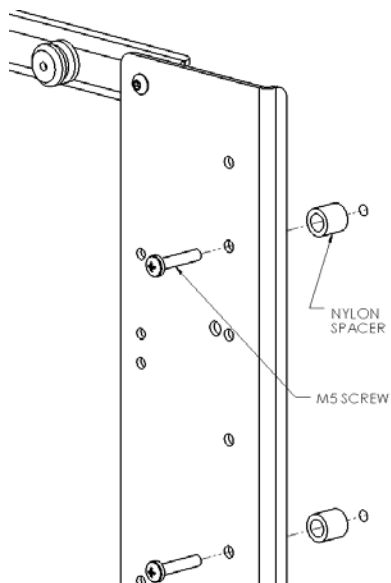
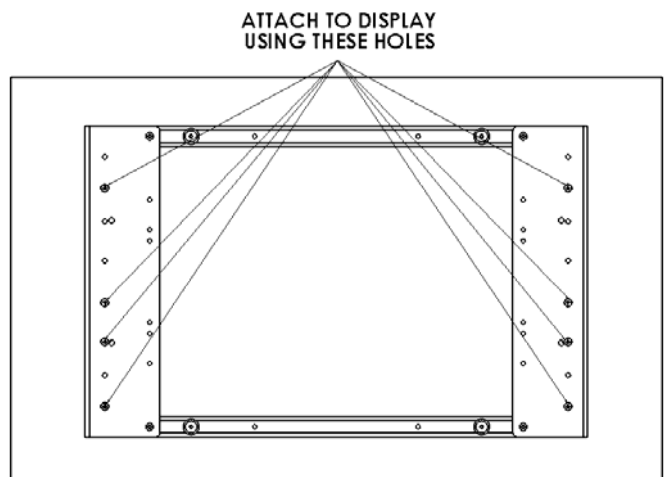

Figure 6
Figure 7
- Place Nylon spacers over mounting holes on back of screen. Attach mounting brackets to display using M5 screws (see Figures 6 & Figure 7).